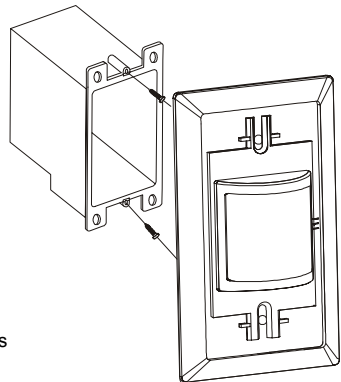

Figure 3: Mounting to the Electrical Box
5. Mount the detector onto the electrical box with two screws – see Figure 3. Do not tighten the screws yet.